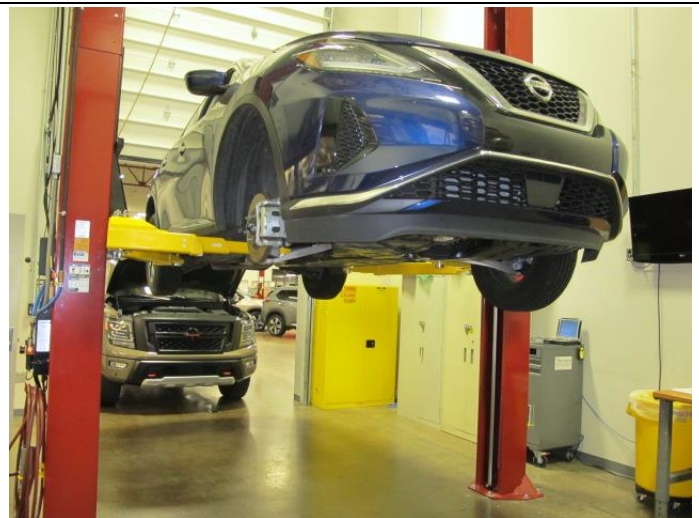

Figure 5
5. Using the lift, raise the vehicle up to full up position (Figure 5).